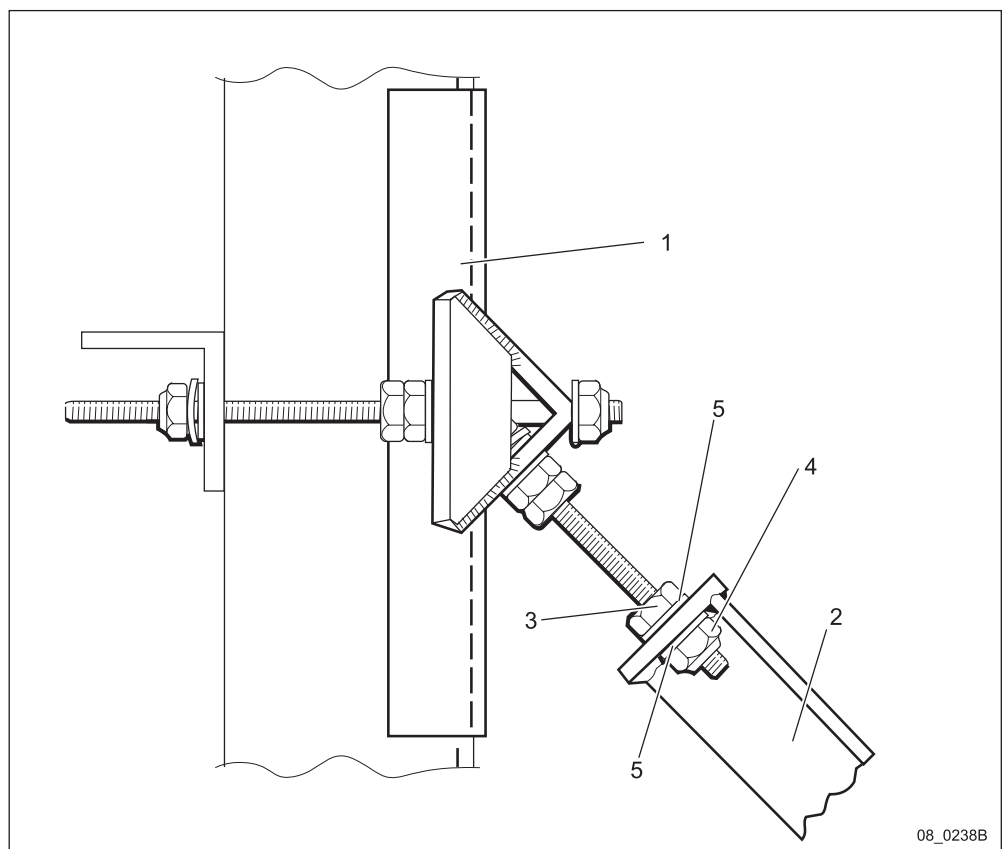

Figure 8
5. Mount a plain washer, (pos 5) in figure 8, on each bolt before the pin bolts are fitted into the diagonal struts.